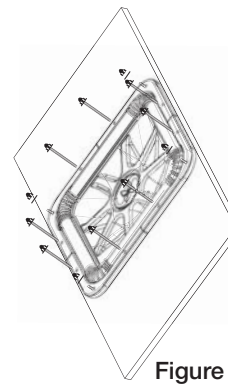

Figure 18
Fit the SPAIR to the BAM with the four (4) 1/4"-20 Acorn Head Nuts and washers, and the eight (8) Acorn Head Bolts. We have enclosed four (4) extra Acorn Head Bolts. See Figure 18.